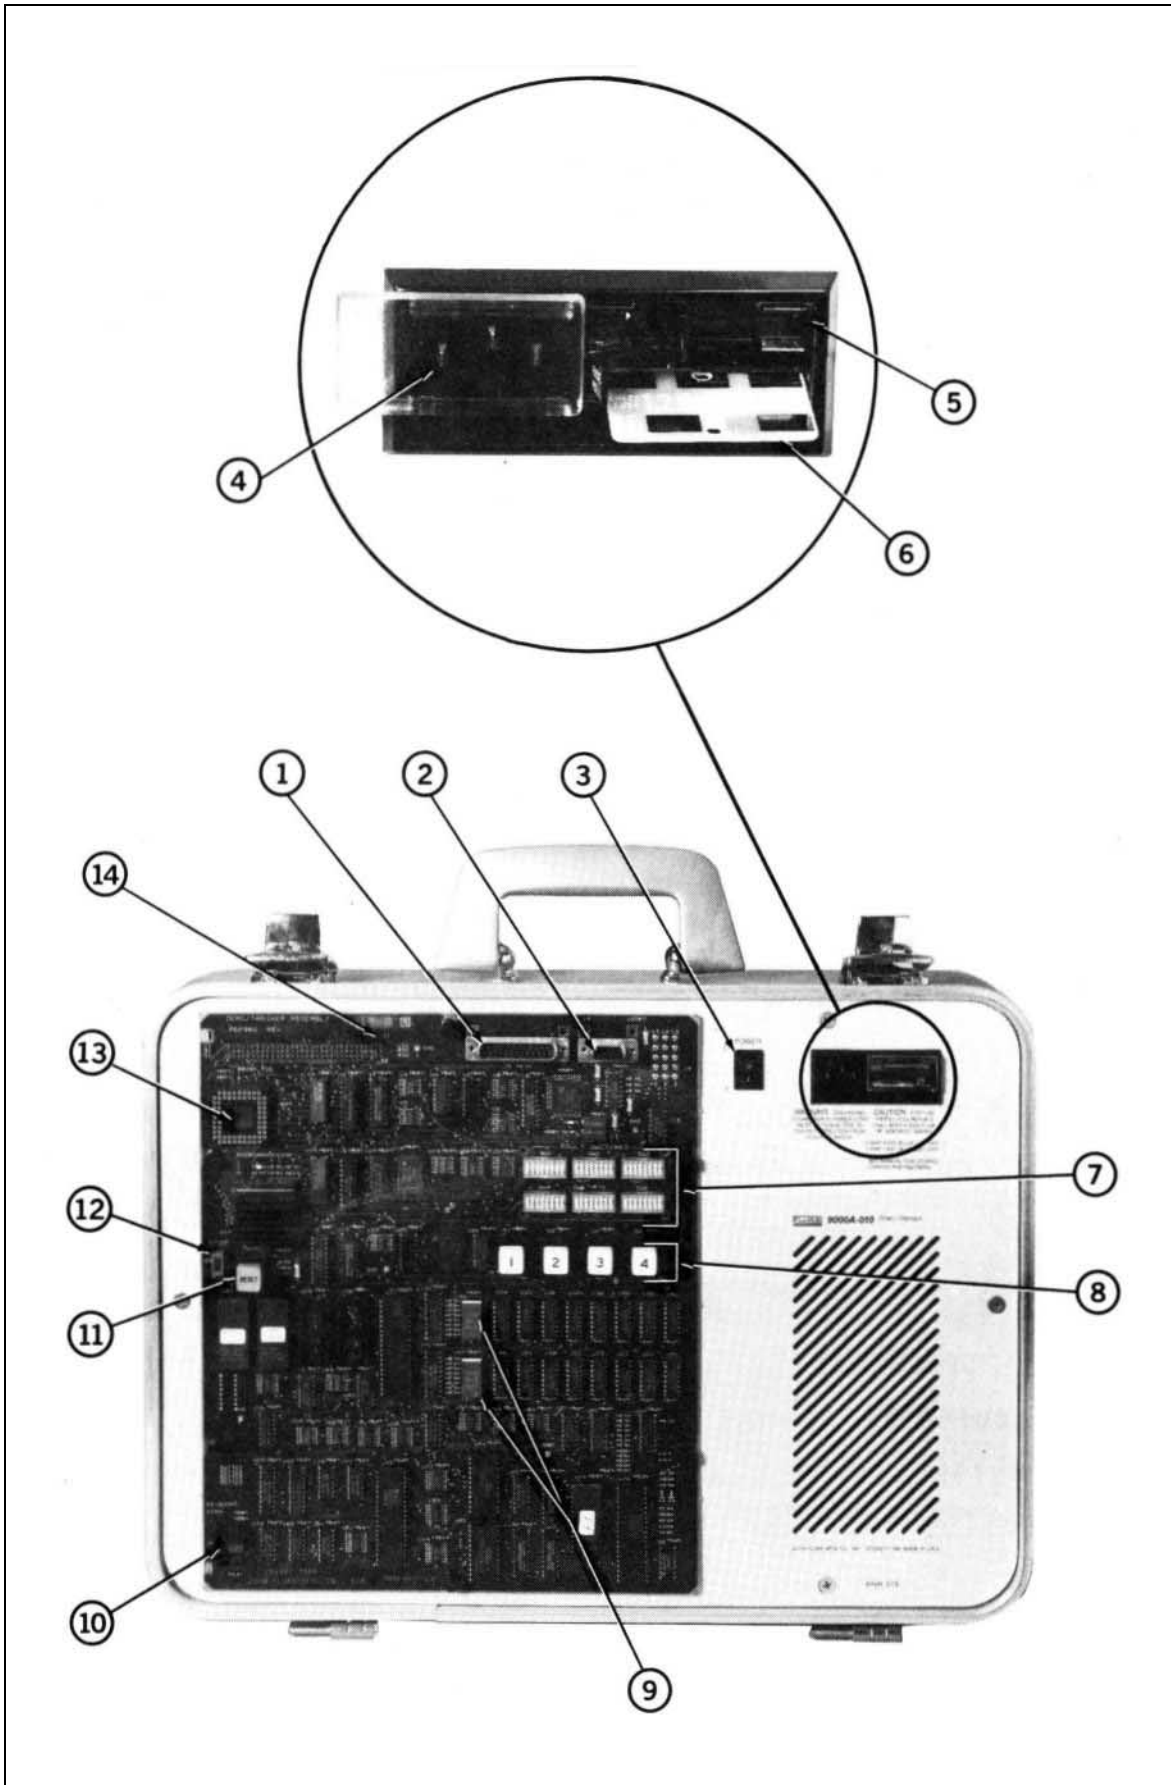

Figure 1. Features
Demo/Trainer features mentioned below are shown in Figure 1.
Line voltage is determined by the position of the voltage selection card (see Figure 1). The card is recessed in the fuse holder assembly. With the fuse removed, the “100”, “120”, “220”, or “240” printed on the card can be viewed through a window in the fuse holder.
1. With the Demo/Trainer power off (0), connect the Pod cable to J5 (labeled 13 in Figure 1).
2. Ensure that S5 (labeled 12 in Figure 1) is set to TEST.
1. If a keyboard and monitor are to be used, first ensure that power is off (0). Then connect the keyboard to J6 (labeled 10 in Figure 1) and the monitor to J3 (labeled 2).
2. Ensure that S5 (labeled 12 in Figure 1) is set to RUN.
3. Apply power (1).
The Functional Test Switches (see Figure 1) provide an entry point for exercising the Demo/Trainer.